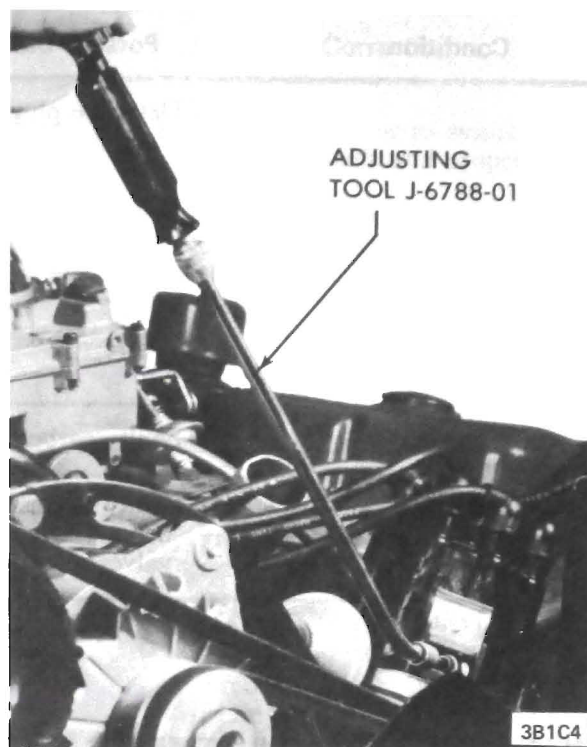

Figure 1C-5 Adjusting Dwell Angle V-8
3. Lift distributor cap window, insert 1/8" allen wrench or equivalent in adjusting screw and set dwell angle at 30 degrees. See Figure 1C-5.